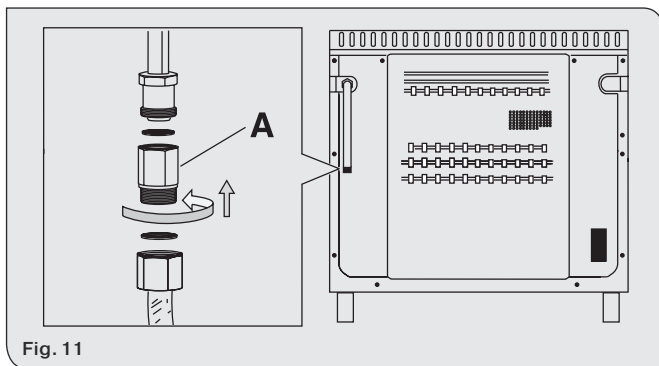

Fig. 11
- 2) by flexible tube in stainless steel with continuing wall, with mechanical connection in accordance with rules (see fig. 11).
**WARNING: connect the gas to the oven's gas supply line using the supplied connector (A) (see figure 11)**